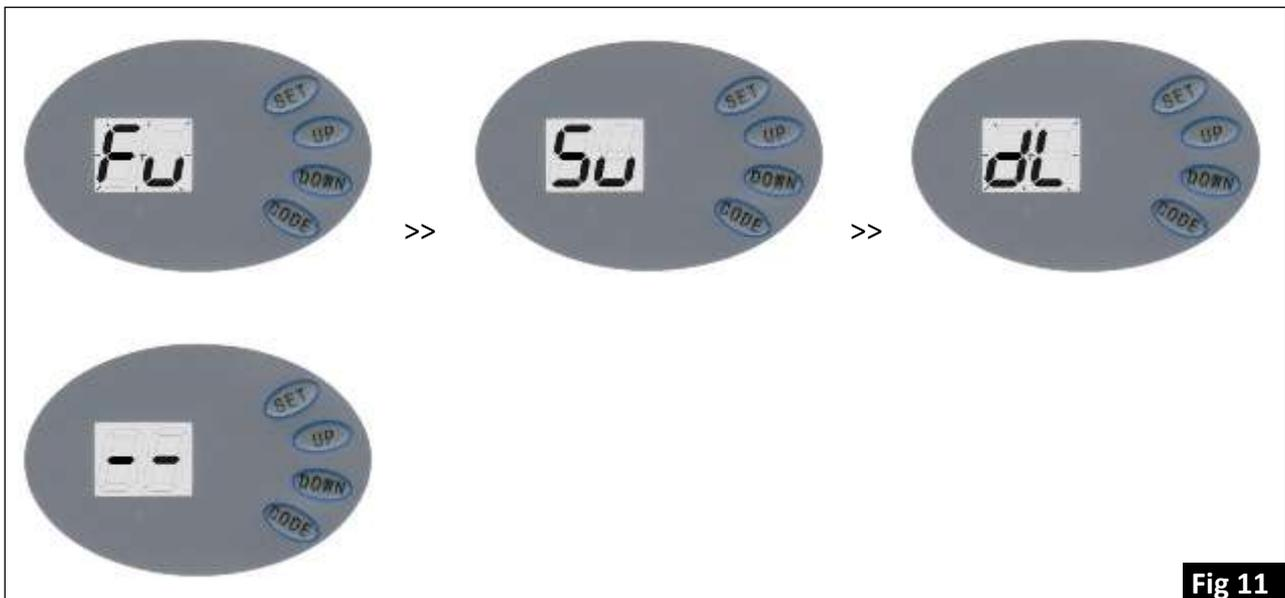

Fig 11
- 14.1 This Opener can store up to 20 transmitter codes. When the memory is full the LED display will flash "Fu".(Fig.11).
- Change to "- -" — This indicates the transmitter code is now stored. (Fig.11).
- 14.4 To delete codes from the opener press and hold the "Code" button for 8 seconds. "dL" will display on the LED screen indicating all transmitter codes have been deleted. Fig.11)